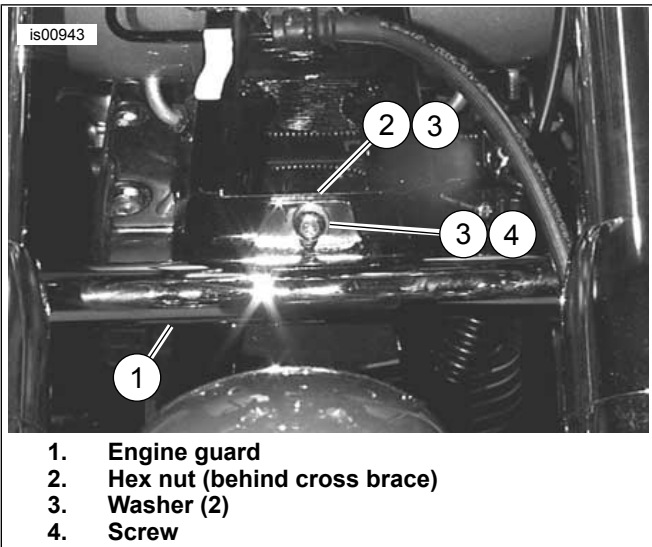

Figure 2. Engine Guard Mounting Flange (Top Center)
2. See Figure 2. Hold the engine guard (1) in place, lining up the hole in the top center mounting flange of the guard with the hole in the cross brace located between the front downtubes just below the steering head.
3. Install a flat washer (3) onto the screw threads and insert the screw (4) through the holes from the front. Install the second flat washer over the screw threads and thread the hex nut (2) onto the screw. Tighten finger-tight.